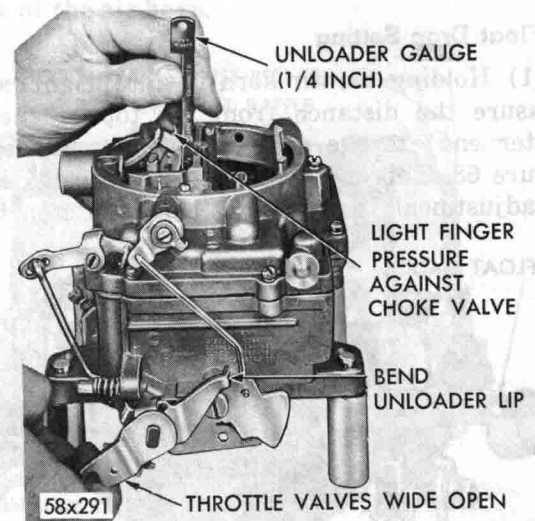

Fig. 71—Checking Choke Unloader (wide open kick) Adjustment
(1) With the throttle valves in the wide open position, it should be possible to insert Tool T109-31 (1/4 inch) gauge between the upper edge of the choke valve and the inner wall of the air horn, as shown in Figure 71.
(2) If an adjustment is necessary, bend the unloader lip on the throttle shaft lever, using Tool T109-41, until correct opening has been obtained.